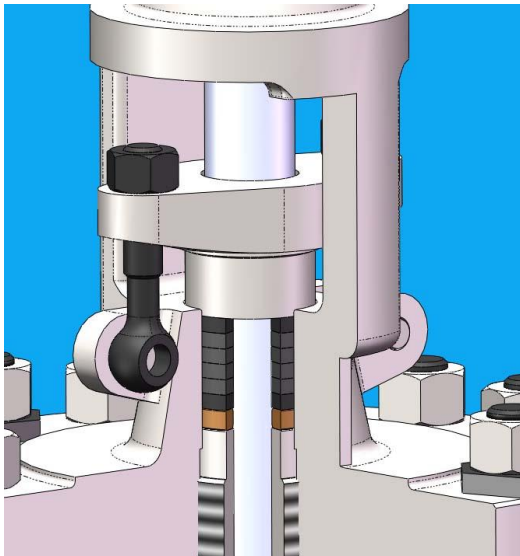

Figure 4 Stem packing detail
1. Release all valve internal pressure, loosen the nuts on the eyebolts, remove eyebolts and packing flange, packing gland (see figure 4).